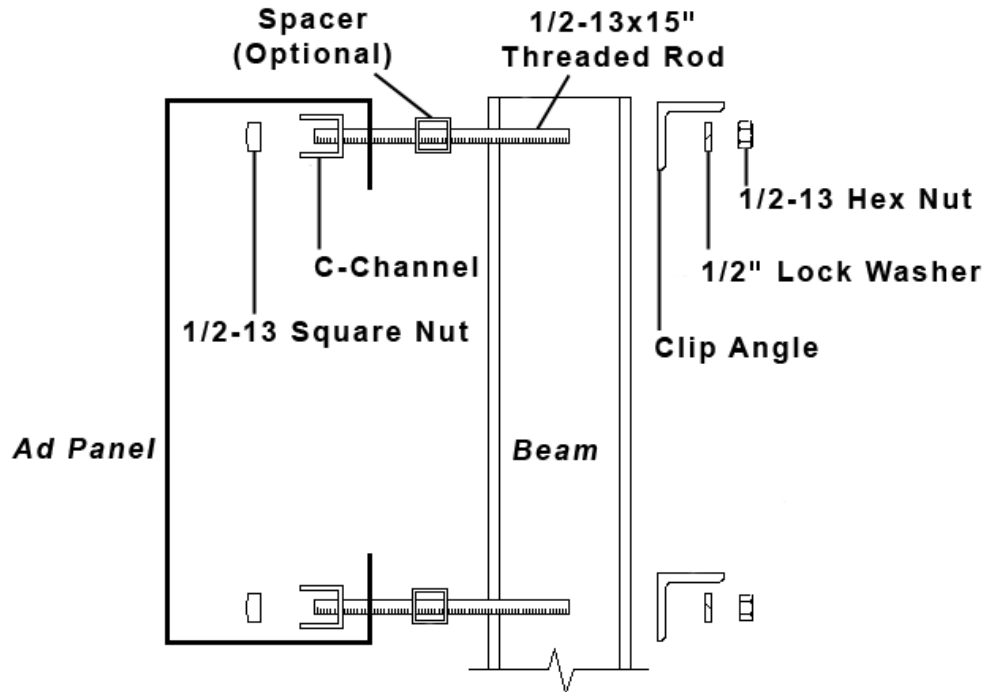

Figure 8: Ad Panel Mounting with C-channel, Side View
The installation uses C-channels; clip angles; 1/2-13" threaded rods; and 1/2" square nuts, hex nuts, lock washers, and optional spacers similar to the clamping mounting method above. Refer to **Figure 8** and **Drawing A-52187** in **Appendix A**.
3. Position the C-channel *inside* the ad panel cabinet along the upper and lower rear flanges as shown in **Figure 8**.